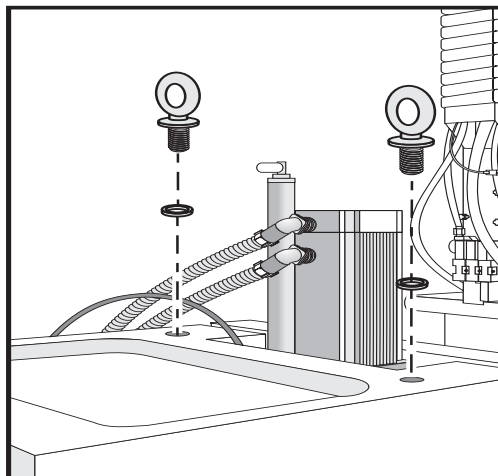

Fig. 2-2 VF-5 eyebolt locations on top of column.
2. Install (2) 5/8 x 1 x 11/16" eyebolts and (2) 3/4" hard washers to the column as shown in Figure 2-2. Tighten securely.